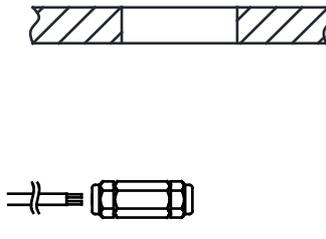

Fig 1.2
1.2 Connect the power cable to a waterproof junction box. (See Fig 1.2)